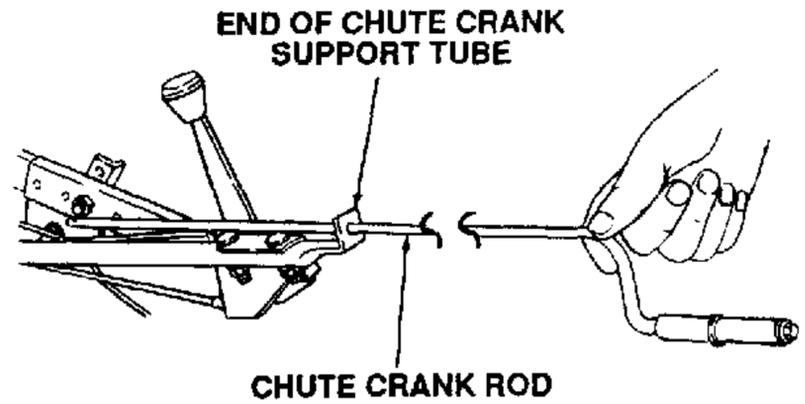

Figure 7-29. Install Chute Crank Rod.
7. Insert the chute crank rod (23) through the hole in the rearward end of the support tube (2). Refer to Figure 7-29.